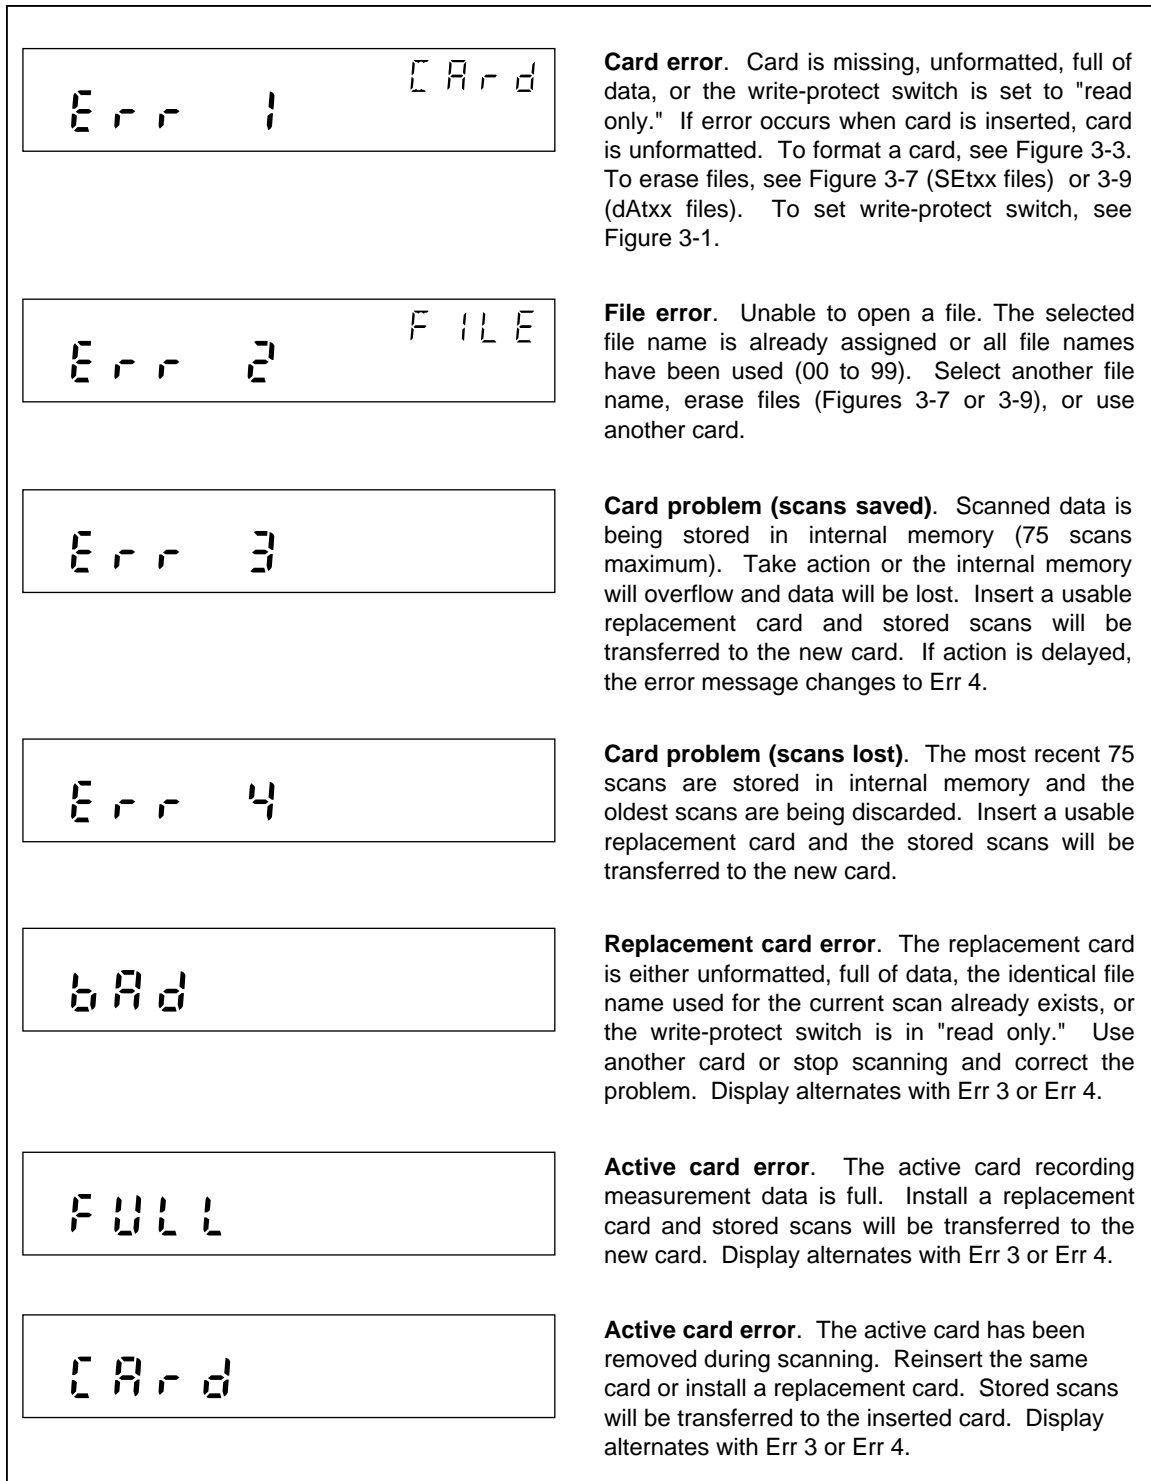
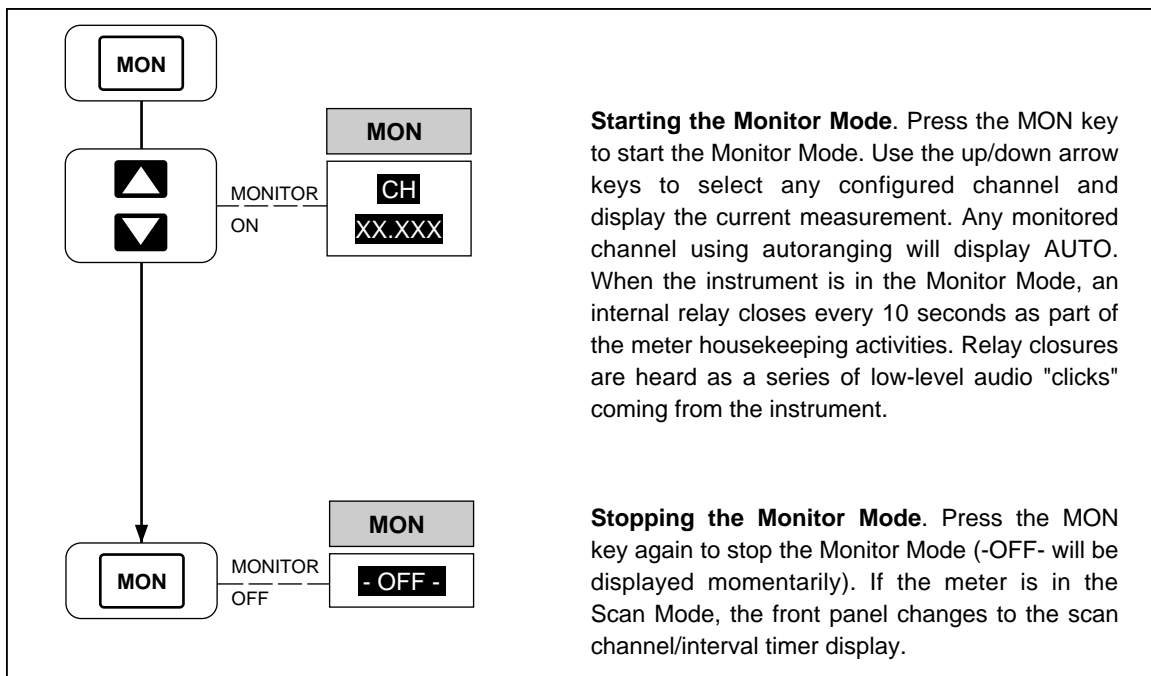
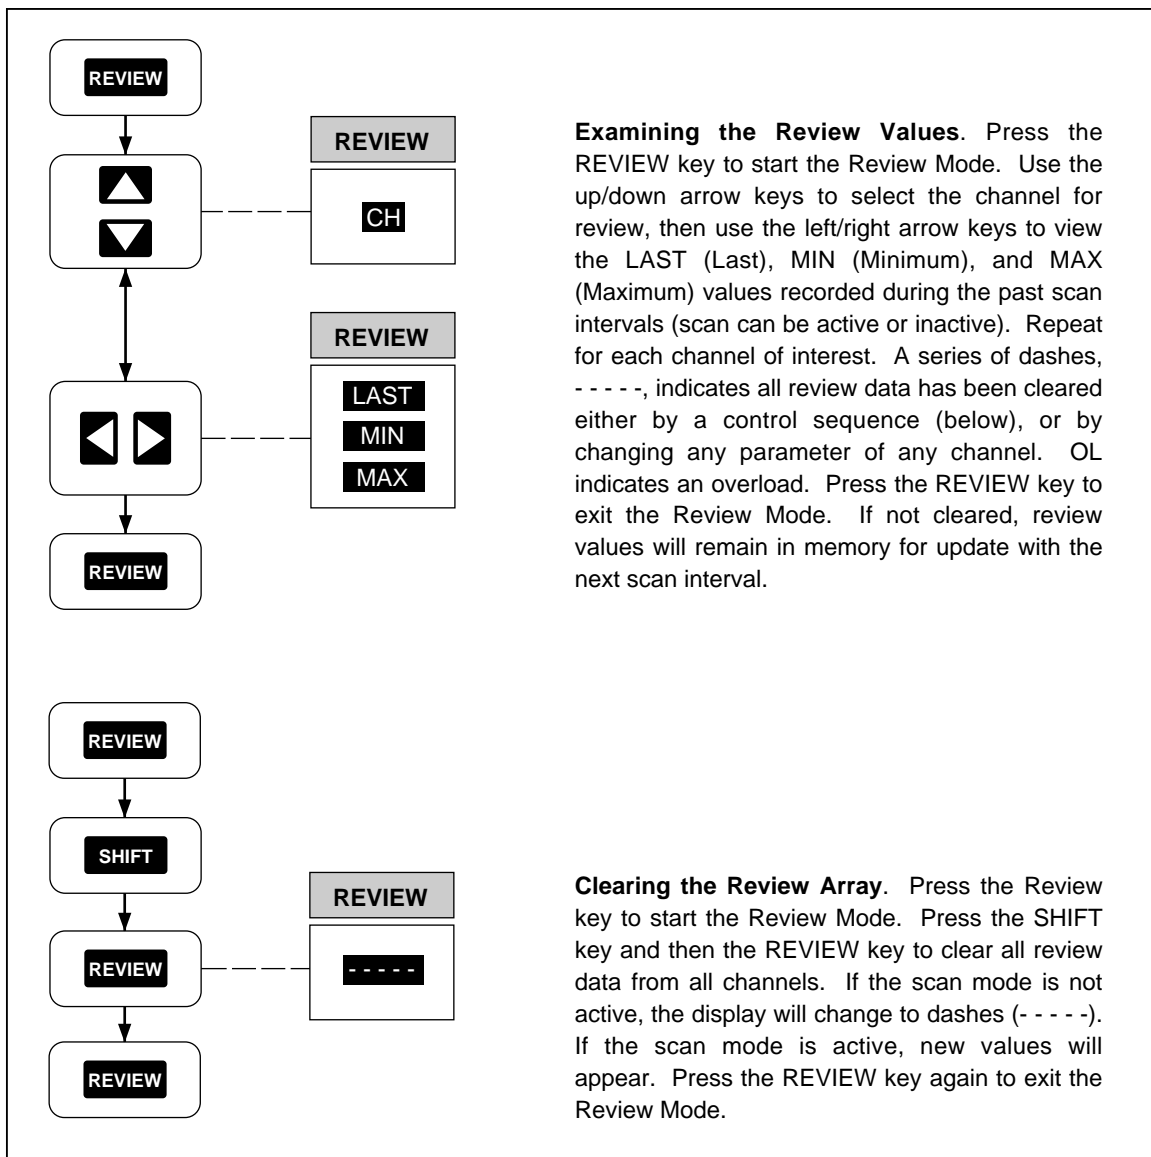

Figure 2-16. Memory Card Error Messages
Figure 2-17. Using the Monitor Mode
Figure 2-18. Using the Review Mode
- Using the Monitor Mode (Figure 2-17)
- Using the Review Mode (Figure 2-18)
Perform the procedure in Figure 2-15 to start and stop the Scan Mode of operation. The Scan Mode can be started when the instrument is inactive, in Monitor (Figure 2-17), or Review (Figure 2-18). Measurement results can be sent to a memory card (see Chapter 3, "Memory Card Operations") and PC (see Chapter 4, "Computer Operations") or printer (see Chapter 5, "Printer Operations"). When using the Scan Mode with a memory card, consider each of the following topics. (Memory card error messages are summarized in Figure 2-16.)
3/bAd is displayed (see Figure 2-16). Err4/bAd indicates the internal memory is full, saving only the most recent 75 scans. The new card is updated with the scans in memory.
**Starting the Scan Mode.** Press the SCAN key to start scanning. If the data destination includes the memory card and a data file has not been opened, a dAtxx file will be displayed. If an error message appears, refer to Figure 2-16.
**Opening a Data (dAtxx) File.** Press ENTER to open the suggested file or use the cursor keys to select a file name (00 to 99), then press ENTER. If an error message appears, refer to Figure 2-16. Press the CANCL key to exit without opening a file or starting scanning.
**Starting the Single Scan Mode.** Press the SHIFT key then then SCAN key for a single measurement scan. If the data destination includes the memory card and a data file has not been opened, a dAtxx file will be displayed. If an error message appears, refer to Figure 2-16.
**Opening a Data (dAtxx) File.** The suggested dAtxx file can be opened by pressing ENTER, or the cursor keys can be used to select a file name (00 to 99), then press ENTER. If an error message appears, refer to Figure 2-16. Press the CANCL key to exit without opening a file.
Any illegal memory card operation results in a double "beep" and an error display as shown in Figure 2-16. If the instrument is scanning and in the Monitor Mode or Review Mode, only the double beep will be heard for a memory card error. Error messages are acknowledged by pressing the **ENTER** key or by ejecting the memory card.
Perform the procedure in Figure 2-17 to start and stop the Monitor Mode of operation. The Monitor Mode can be started when the instrument is in the inactive mode or in the Scan Mode. The Monitor Mode commands the instrument to display the present measurement for any selected channel (except channels set to OFF) and to display alarm information if the channel is in alarm. If the Monitor Mode is used without the Scan Mode, the instrument operates like a multimeter. If the Monitor Mode is used with the Scan Mode, the instrument also operates like a multimeter but measurements can be recorded into memory, printed out, and reviewed (maximum, minimum, last values). The Monitor-Alarm triggering option uses the Monitor Mode to start or stop scans when a selected channel goes into or out of alarm (see Figure 2-19). If the instrument is in the Monitor Mode and scanning using the memory card, any illegal memory card operations are noted only with a double "beep." When you hear a double beep, exit the Monitor Mode and investigate the memory card error (see Figure 2-16).
Perform the procedure in Figure 2-18 to operate the Review Mode of operation. The Review Mode is used any time during or after operation of the Scan Mode. While the instrument is in the Scan Mode, the last, maximum, and minimum measurements for each scanned channel are stored in memory and updated with each scan, forming the Review Array. For example, during scan operations, **REVIEW** can be used to monitor the maximum measurement of a channel in real time. The Review Array is cleared by a control sequence (see Figure 2-18 below), or by changing any parameter of any channel or the measurement rate. The Review Array can be printed out using the **LIST** key (see Figure 5-4). If the instrument is in the Review Mode and scanning using the memory card, any illegal memory card operations is noted only with a double "beep." If a double beep is heard, exit the Review Mode and check the memory card error (see Figure 2-16).